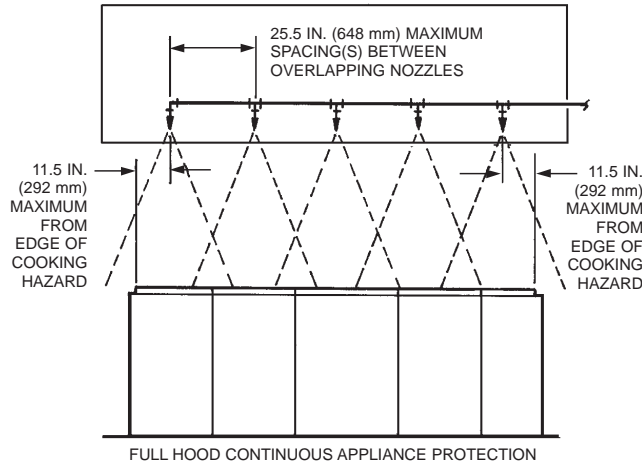
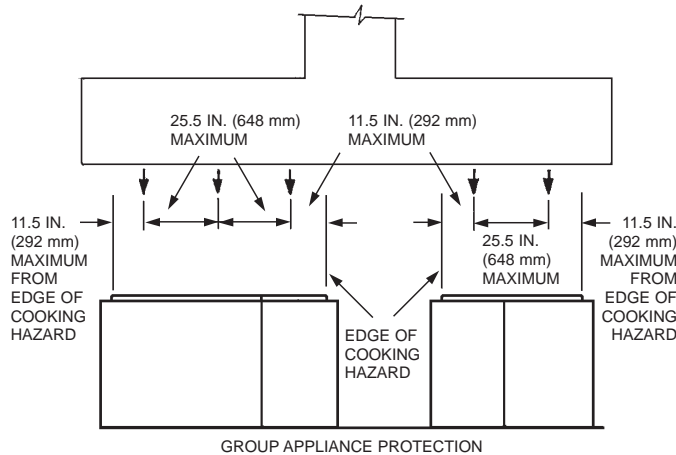

FIGURE 3
FIGURE 4
See Figure 3 (full hood continuous protection) and Figure 4 (multiple group protection).
5. For each group of protected appliances under a common hood(s), the overlapping nozzles must be located from right to left so that each end nozzle is located a maximum of 11.5 in. (292 mm) inside the outside edge of the cooking hazard of each end appliance, and the inside overlapping nozzles must be located between the two end nozzles at a maximum spacing of 25.5 in. (648 mm). See Figures 3 and 4.